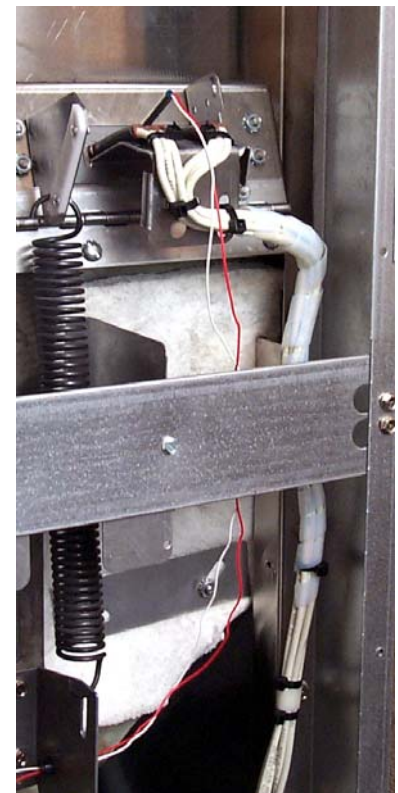

Figure 10: Route the element wires as shown and cover with spiral wrap from the bracket's edge to below the hi-limit. See wire-routing diagram on page 6.
11. Place spiral wrap around the element wires to protect them from chafing (see Fig. 10). Ensure the wrap covers the element wires from the edge of the new bracket to below the level of the hi-limit. Attach a wire tie below the bottom edge of the spiral wrap to ensure it stays in place. See illustration on page 6.
12. Route the wires as shown in Fig. 10 and 12. Ensure the wires cannot touch the back of the fryer when the tilt-plate is moved. Also, ensure that the probe wires are not bundled with the element wires (see Fig. 10).